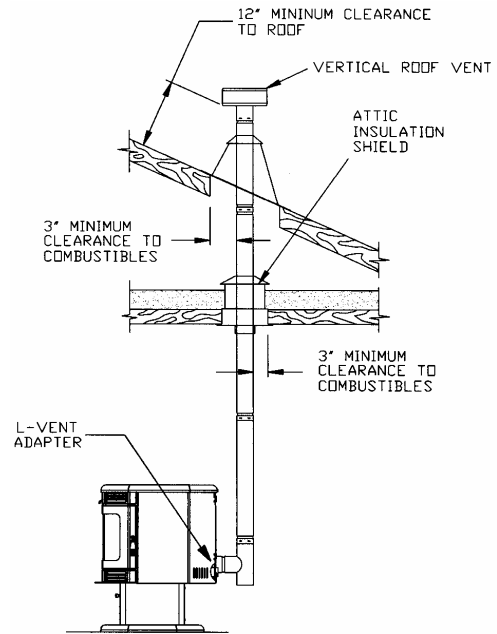

FIGURE 9
B. VERTICALLY WITH NEW CHIMNEY SYSTEM (Refer to Figure 9)